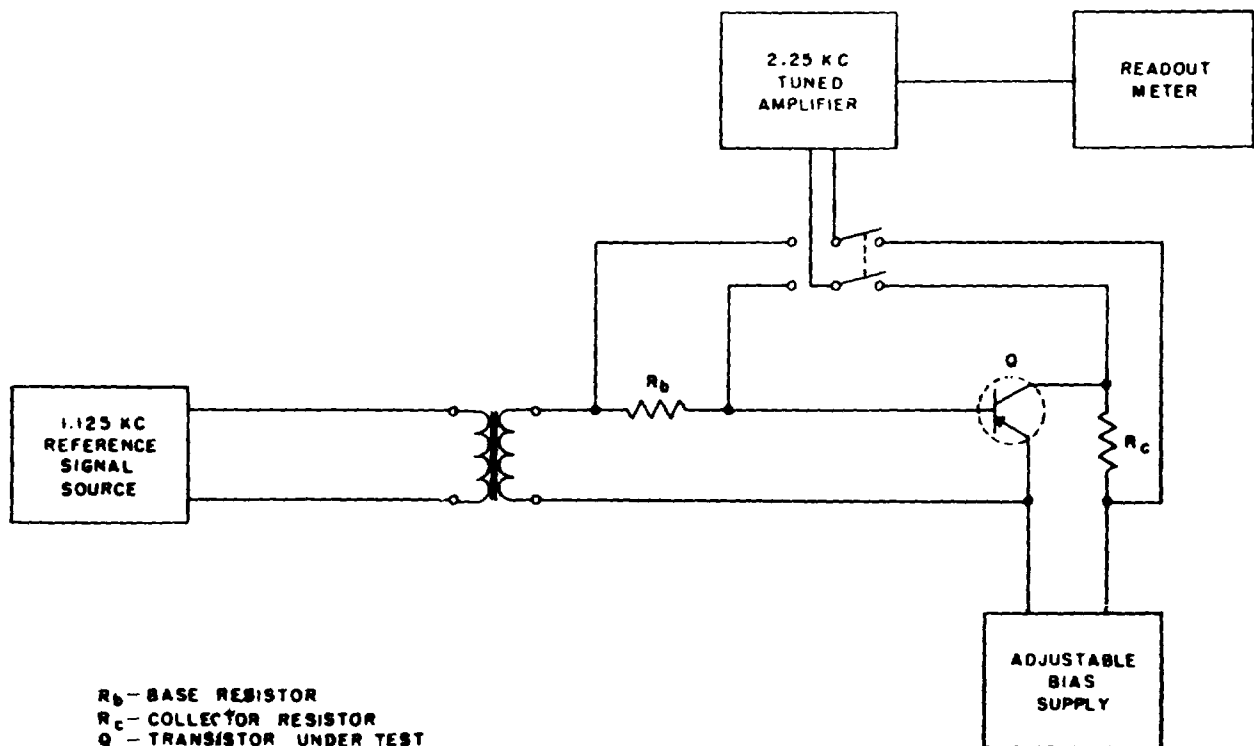

Figure 1-2. Transistor Tester, Functional Block Diagram
(1) Figure 1-2 illustrates a functional block diagram of the tester when measuring beta. The transistor beta parameter is defined as the current gain of a common - emitter transistor configuration, and is expressed by the equation
(4) As shown in figure 1-2, a 1, 125-kc reference signal is applied to the base-emitter junction of the test transistor. The 2.25-kc (second harmonic) tuned amplifier is switched across collector load resistor  $R_c$ , and the reference signal is adjusted for 1-milliamper (red line on readout meter) average d-c collector current. The tuned amplifier is then switched across the series base resistor ( $R_b$ ) and the readout meter indicates the value of  $\beta$ .
(5) For the transistor tester to retain its specified accuracy, the impedance loading across the emitter-base and emitter-collector junctions of the test transistor must be 500 ohms or greater. In the event this d-c resistance requirement is not met, a front - panel warning light indicates this low-resistance shunt path; but if an impedance of 500 ohms or more is present the specified accuracy is retained regardless of the lighted lamp. This same warning light also indicates a shorted transistor.
(6) The readout meter (minus its associated amplifier ) measures transistor leakage current ( $I_{co}$ ) when the transistor is disconnected from the circuit. This facility provides an additional check on transistor degradation.